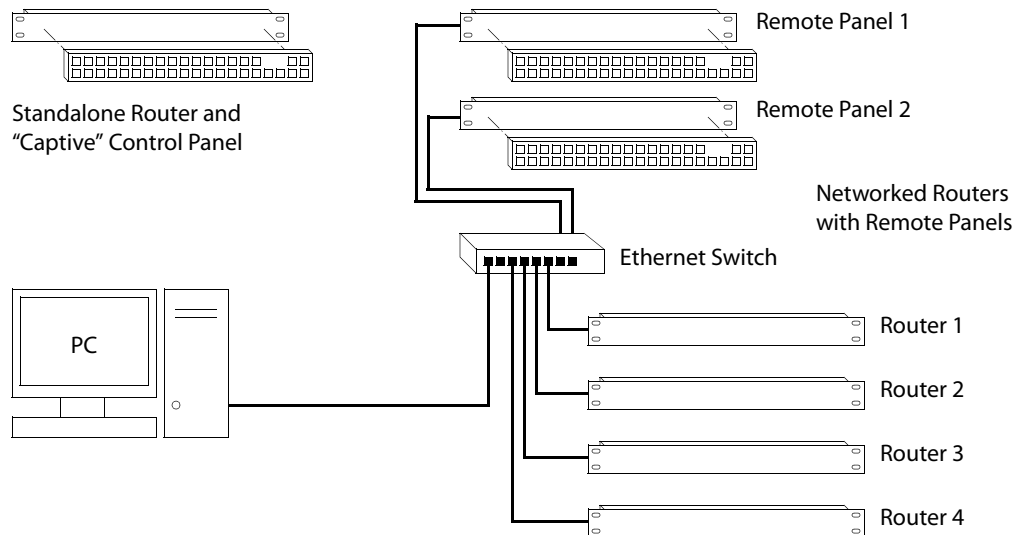

Fig. 2-1: Standalone Router vs. a Network of Routers
Figure 2-1 compares a stand-alone router with a captive panel to a stand-alone router network with remote panel modules:
A CRSC network has the same topology as a stand-alone network (shown in Figure 2-1), except (1) the routers and remote panel modules have been configured under CRSC which provides a more elegant solution to system design.